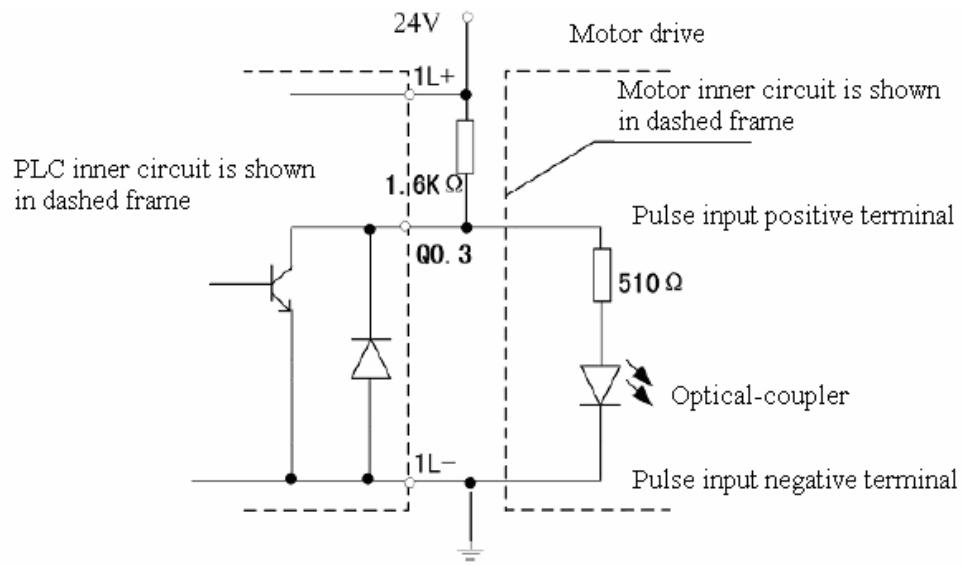
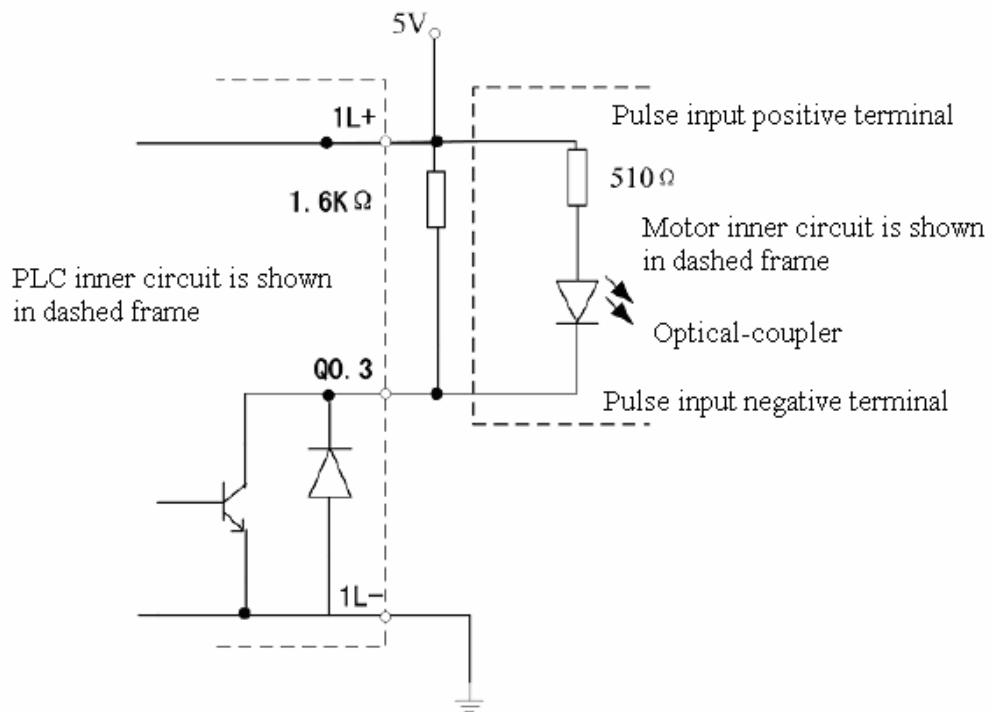

Figure 2.5.2 The Connection between LM3106A High-speed Output and Motor Example1 (same connection method to Q1.1)
Figure 2.5.3 The Connection between LM3106 High-speed Output and Motor Example2 (same connection method to Q1.1)
- ◊ Figure 2.5.2 and Figure 2.5.3 show two examples of the connection between LM3106A high-speed output and motor, and L+ connects with 24V and 5V respectively. In figure 2.5.2, L+ connects with 24V. 1.6KΩ resistance is used to the drive rated current value between 10 and 20mA; its resistance value depends on the load (motor driver) current value, and assures that the dynatron current is between 15mA and 100mA when the output dynatron is break-over to supply current channel to the high-speed output. In Figure 2.5.2, when the application program sets Q0.3 value as 1 the dynatron is break-over and does not drive load; when the application program sets Q0.3 value as 0 the dynatron is not break-over and drives load. Figure 2.5.3 is suitable to L+ connects with 5V.